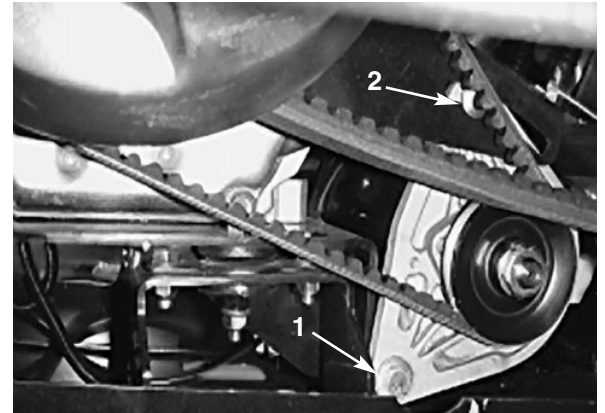

Figure 25
2. Loosen the starter generator pivot bolt (Fig. 25).
3. Wedge a pry bar between the engine mount and starter. Loosen the nut on the adjusting carriage bolt (Fig. 25).
5. Tighten the carriage bolt nut and remove the pry bar. Tighten the starter generator pivot bolt (Fig. 25).